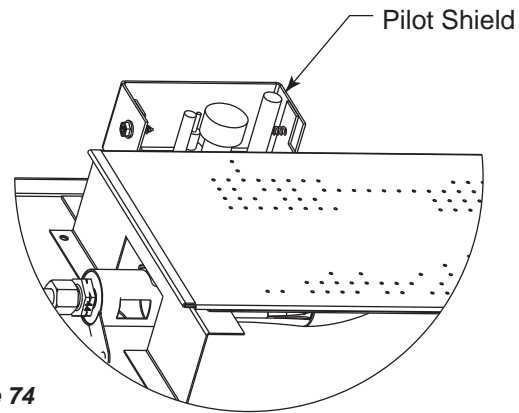

Figure 74
6. Loosen two (2) pilot screws.
7. Install the extra pilot shield provided with the kit by sliding it down between the front of the pilot and the burner. Fasten the shield using the two (2) screws supplied in kit. *Figure 74*